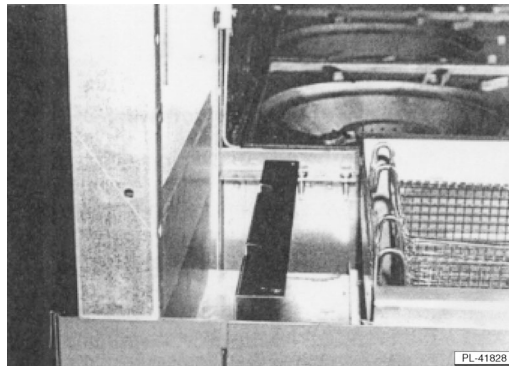

**Fig. 6**
3. Carefully lift riser, backguard or high shelf over range (Fig. 6).